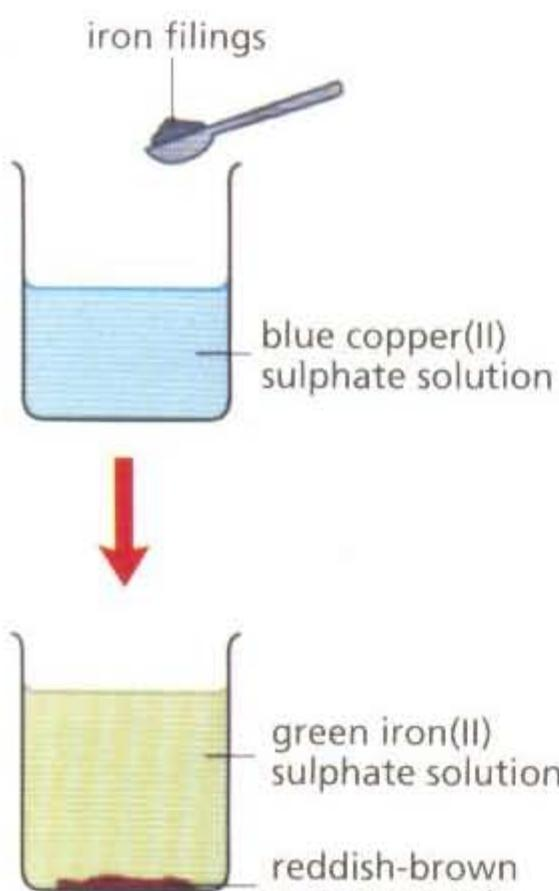

Fig. 14.12 Iron displaces copper from copper(II) sulphate solution.
More reactive metals can displace less reactive metals from their salt solutions. For example, solid iron displaces copper ions from a solution of copper(II) sulphate (Fig. 14.12). Due to the action of iron, copper metal is precipitated out of the solution as a pink or a reddish-brown solid.